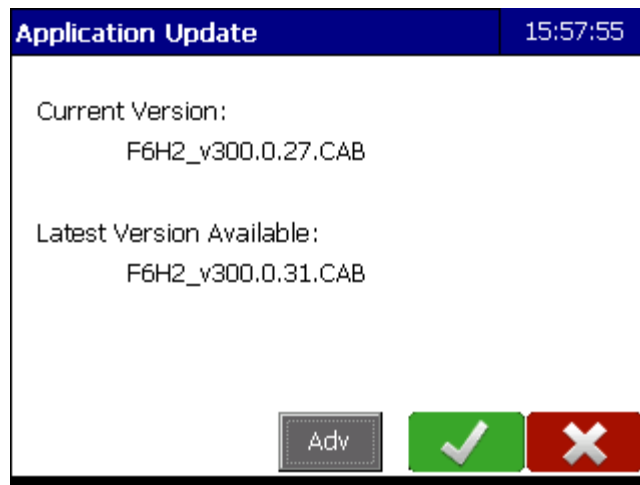

Figure 7-15: Application Update screen
5. The datalogger displays the **Application Update** screen (Figure 7-15). The Current Version of the application currently running on the datalogger as well as the Latest Version Available (as found in the Axiom H2 Data Logger\SW folder on the memory stick) is shown.